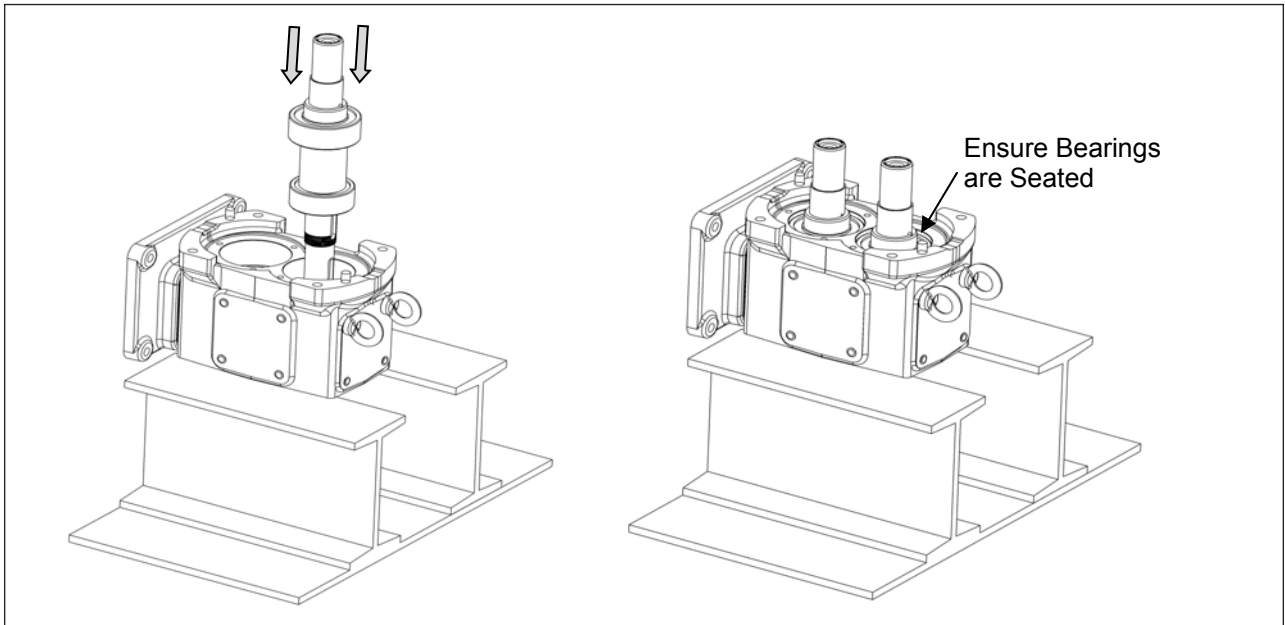

Figure 35. Pressing Rear Bearing onto Shaft
**Disassembly:** The double mechanical seal option is shown in *Figure 35*. Using the o-ring tool provided by Ampco, remove the mechanical seal and o-rings from the rotor and body. Slide the double mechanical seal base out of the body and remove the seal base o-ring.